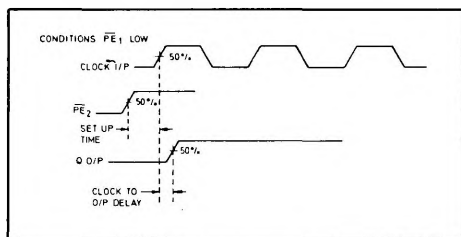

Fig. 3 Set-up timing diagram
- Set-up time is defined as the minimum time that can elapse between a L $\rightarrow$ H transition of a control input and the next L $\rightarrow$ H clock pulse transition to ensure that the  $\div 5$  mode is forced by that clock pulse (see Fig. 3).